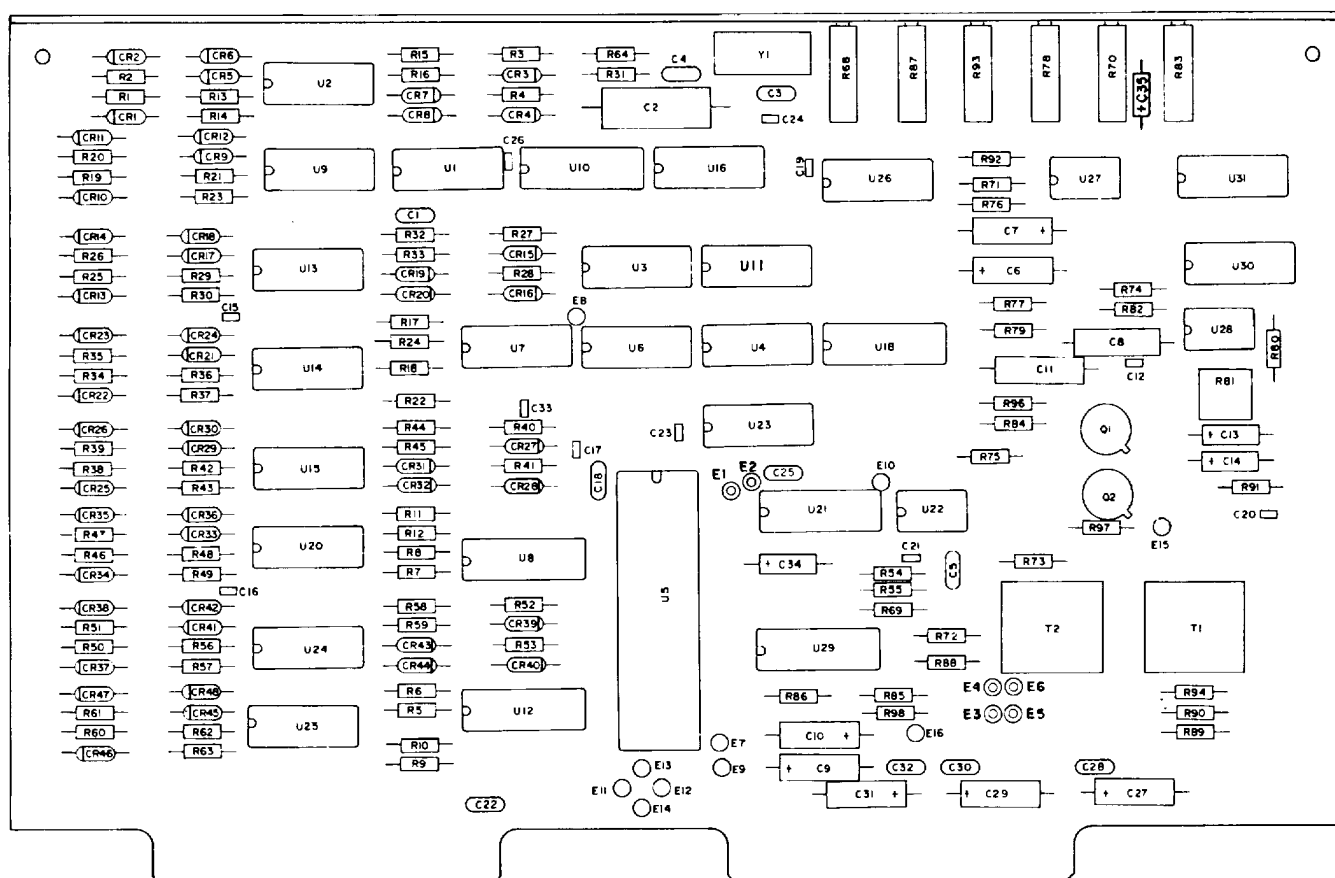

Figure 4-5. Status XMTR Modem Circuit Card Assembly, 1A2A4
e. Status XMTR Modem Circuit Card Assembly (1A2A4) Disassembly. This circuit card assembly should be removed only when servicing or component replacement is required. To remove this circuit card assembly, grasp both edges of the card and pull up. Further disassembly should be limited to removal of parts for repair or replacement. Refer to figure 4-5 for location of component to be replaced.